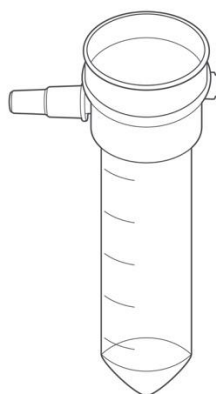

Figure 10 Steriflip® unit
4. Immediately connect the 50 mL tube containing each warmed medium to a Steriflip® unit. (See Figure 10 below)